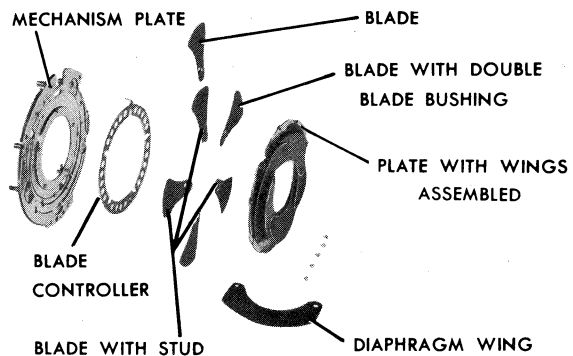

Figure 13
15. Diaphragm retainer PLATE WITH WINGS ASSEMBLED, figure 13.
4. Proceeding counterclockwise, replace four **BLADES WITH STUD**, figure 13, allowing the wide end of each blade to overlap the narrow end of the preceding blade.
| Shutter blades buckle | <p>NOTE: The following conditions may contribute to blade buckle singly or in combination.</p> <p>Loose studs on shutter blades or MECHANISM PLATE, figure 23.</p> <p>BLADE CONTROLLER with contact stud, figure 13, not flat.</p> <p>Shutter blades not flat.</p> <p>Mechanism plate not flat.</p> <p>Blade controller too loose or too tight on the central hub of the mechanism plate.</p> <p>Too much play between mechanism plate and diaphragm retainer PLATE WITH WINGS ASSEMBLED, figure 13, due to retainer plate being bowed.</p> <p>Burr or roughness on diaphragm retainer plate with wings assembled.</p> | <p>Replace the shutter blades. Restake the studs on the mechanism plate carefully to avoid swelling the top of the stud.</p> <p>Straighten or replace the blade controller.</p> <p>Replace the blades.</p> <p>Replace the mechanism plate.</p> <p>Replace the blade controller.</p> <p>Replace the diaphragm retainer plate with wings assembled.</p> <p>Replace the plate.</p> |